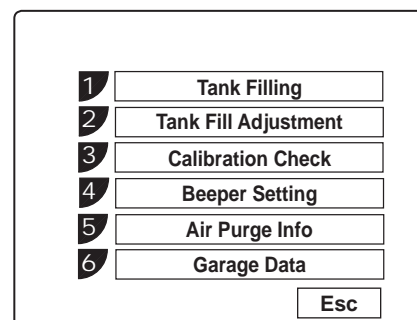

Figure 14
1. Select **TANK FILL ADJUSTMENT** from the Setup menu. See Figure 14.